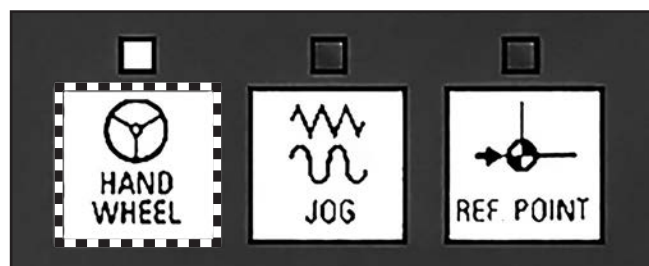

Figure 94. Handwheel key on MCP.
1. On MCP, press HANDWHEEL key, as shown in **Figure 94**.